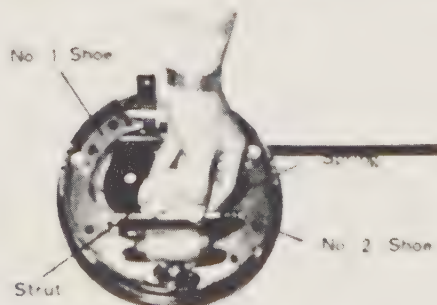

Fig. 9.8. Fitting the parking brake strut
- 20 Fit the parking brake strut between the two shoes as shown in Fig. 9.8. Fit the shoe return spring and automatic adjuster cable on the anchor pin. First fit the No 1 shoe return spring, the cable, and then fit the cable guide on the No 2 shoe. Now fit the No 2 shoe return spring.